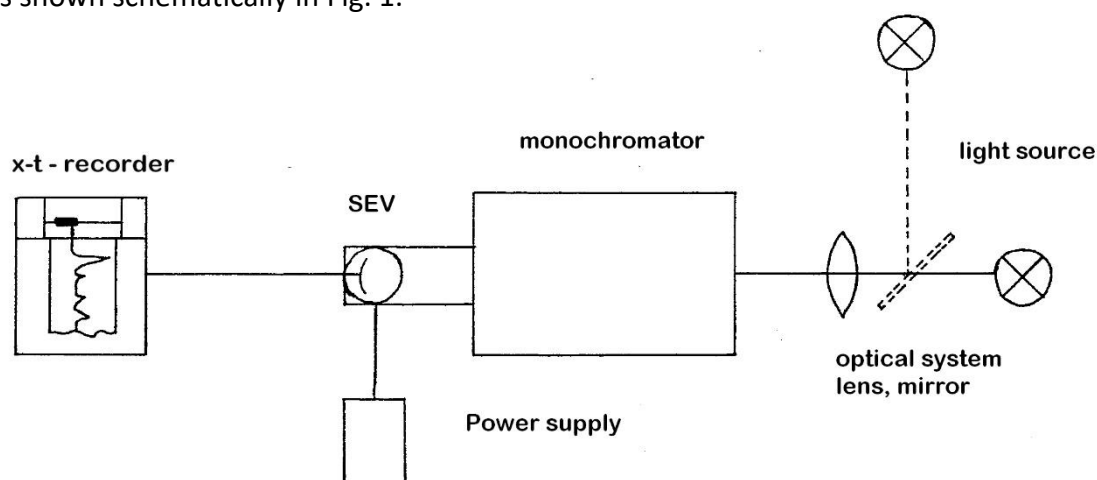

Fig. 1: Schematic structure of the experimental apparatus
- and is shown schematically in Fig. 1.